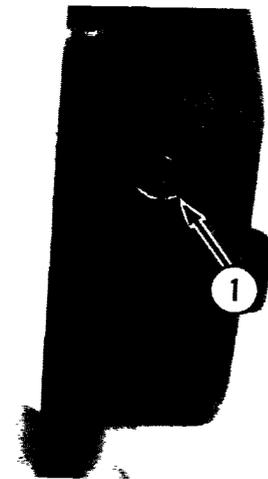

Fig. 2-34
- (15) To remove the needle bearing (1, Fig. 2-34) place a flat washer the size of a penny on the backside and drive out with a brass punch and hammer.